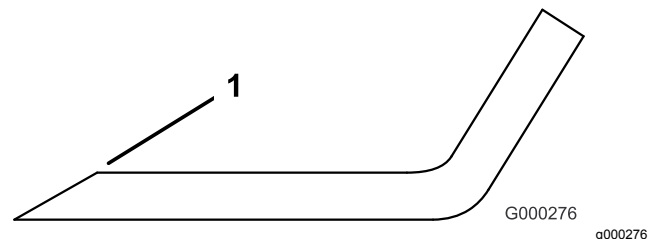

Figure 112
3. Examine the cutting edges of all of the blades and sharpen the cutting edges if they are dull or nicked (Figure 112).
Note: Sharpen only the top of the cutting edge and maintain the original cutting angle to ensure sharpness (Figure 112). The blade will remain balanced if the same amount of metal is removed from both cutting edges.